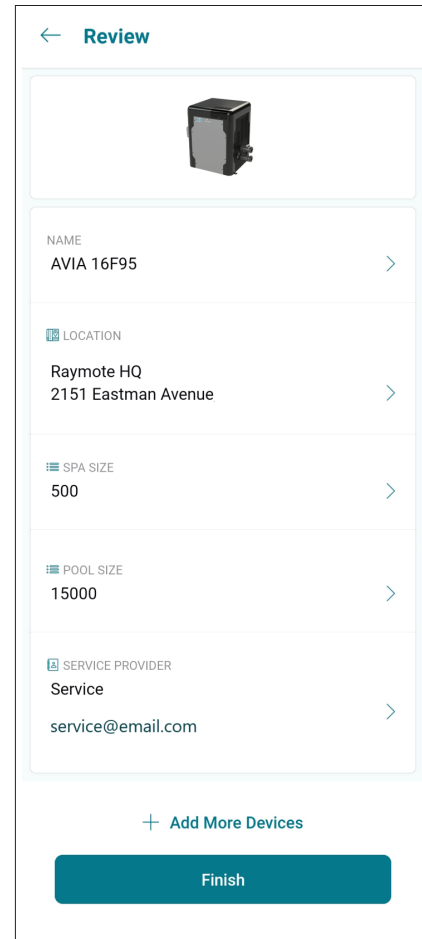

**Figure 97. Name Your Unit**
1. Your device is now connected to Wi-Fi. You can change the name of your device here. See **Figure 97**.